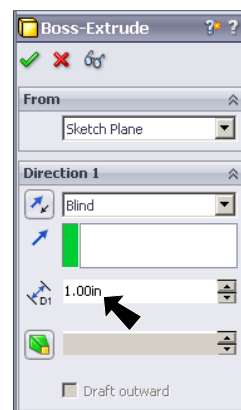

Fig. 4
Step 10. In the Property Manager set: under Direction 1, **Fig. 4**